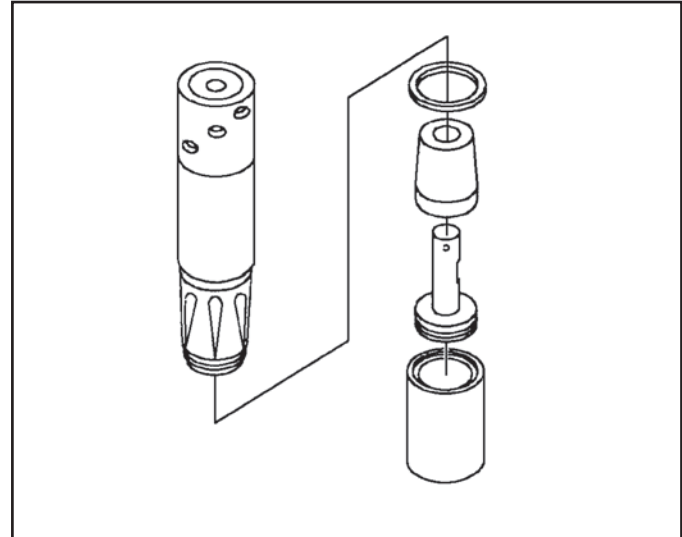

Figure 199
20. Install a new forward/reverse servo piston sealing ring as shown in Figure 199.